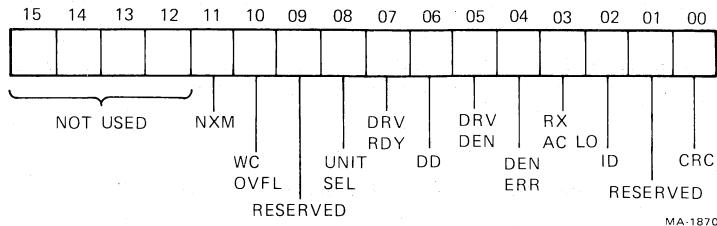

Figure 4-30 RX2ES Format (RX211/RXV21)
4.3.2.8 RX2ES - RX Error and Status (Figure 4-30) – This register contains the current error and status conditions of the drive selected by bit 4 (Unit Select) of the RX2CS. This read-only register can be addressed only under the protocol of the function in progress (Paragraph 4.3.3). The RX2ES is located in the RX2DB upon completion of a function.